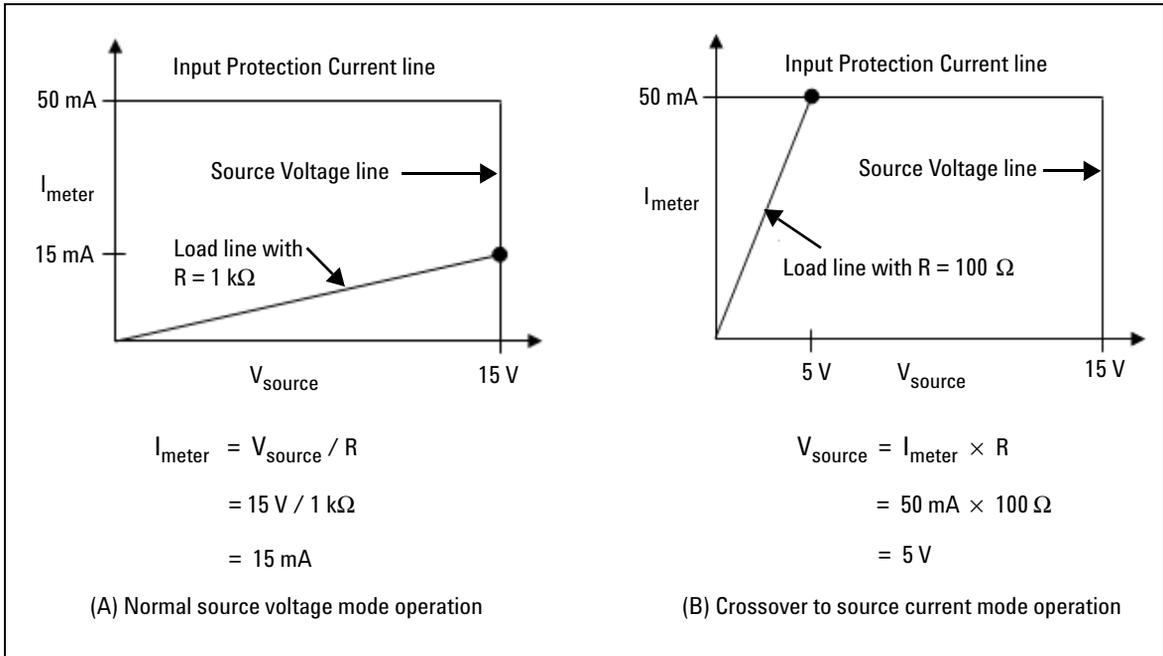

Figure 2-6 Source voltage operation
Figure 2-6 shows the operation with different resistive loads, which are 1 k Ω and 100 Ω respectively. In these examples, the U2722A/U2723A is having a source voltage of 15 V and an input protection current of 50 mA.
In **Figure 2-6 (A)**, the U2722A/U2723A is having a source voltage of 15 V to a 1 kΩ load and it is measuring 15 mA. As long as the DUT load line intersects the source voltage line, it will be in source voltage mode and the voltage will maintain at 15 V. However in **Figure 2-6 (B)**, it shows that when the resistance of the load decreases to 100 Ω the load line intersects the input protection current line. This forces the U2722A/U2723A to go into source current mode. Since the input protection current setting is set at 50 mA and the U2722A/U2723A cannot operate out of the boundary, the voltage changes to 5 V instead.